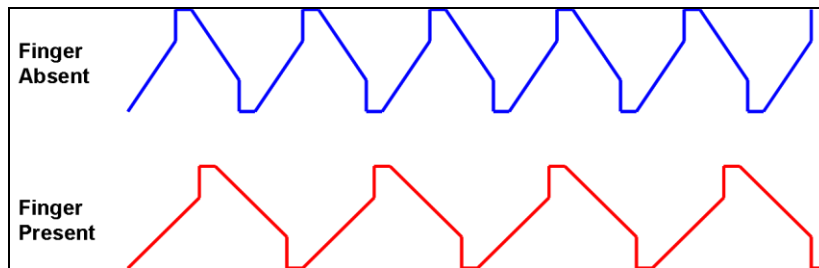
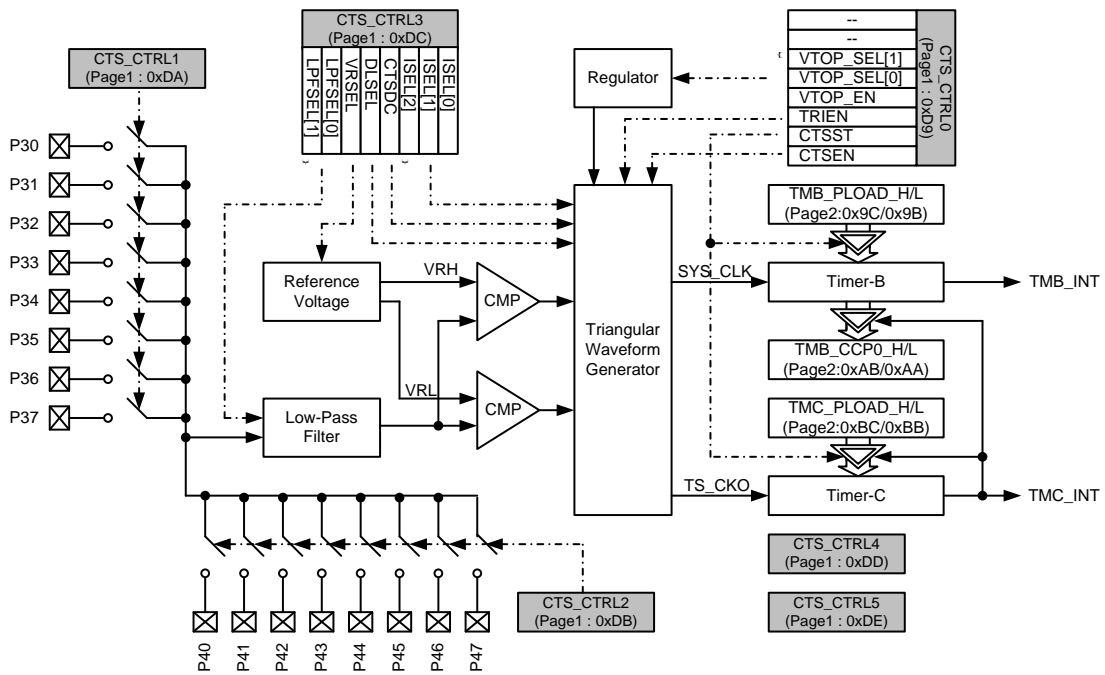

Figure 5-54 The timing show the status of Finger Absent and Finger Present.
Figure 5-57 The capacitive sensing structure block diagrams.
- The capacitive sensing structure frequency change is used as an indication of a touch condition. Figure 5-54 to Figure 5-57 show the related timing and block diagram.